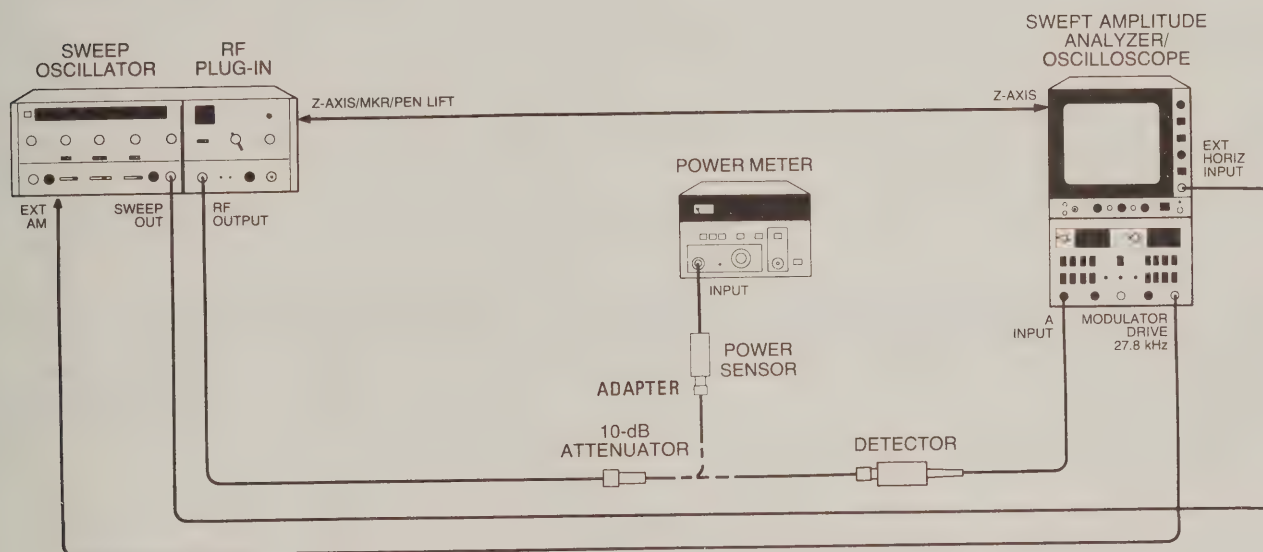

Figure 5-23. 8755C Calibration Setup
Equipment listed is for four test setups, Figures 5-23, 5-25, 5-27 and 5-28.
- a. Connect equipment as shown in Figure 5-23 with power meter connected to 86290B RF OUTPUT. Do not connect 8755C MODULATOR DRIVE to 8620C EXT AM input.